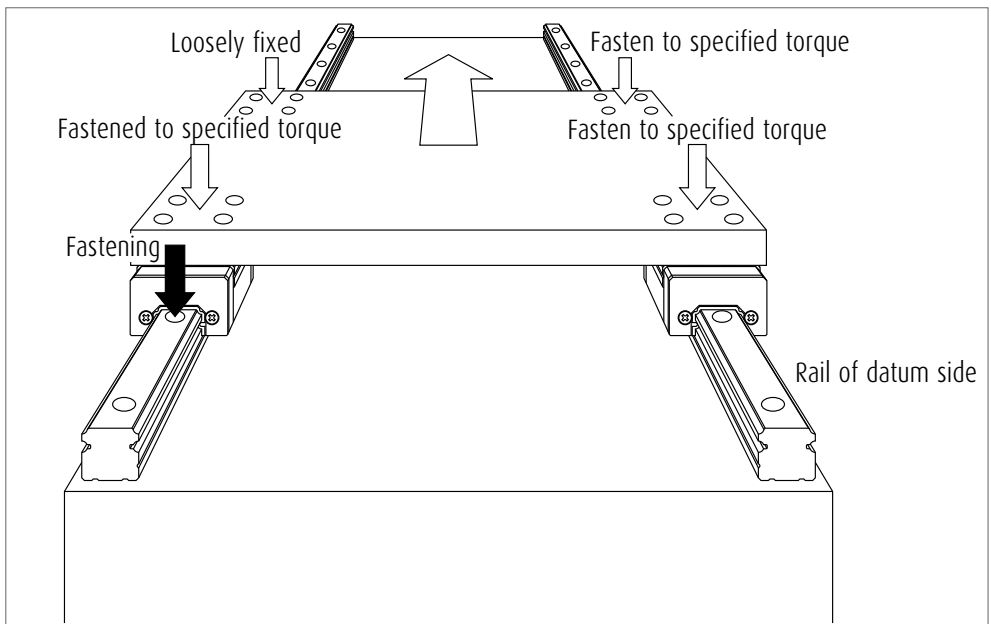

Fig. 18 Easy installation
- [3] Tighten the slides on the reference side rail and one slide on the adjustment side rail with the specified torque. Leave the rest of the slide on the adjusting side rail loosely tightened (**Fig. 18**).